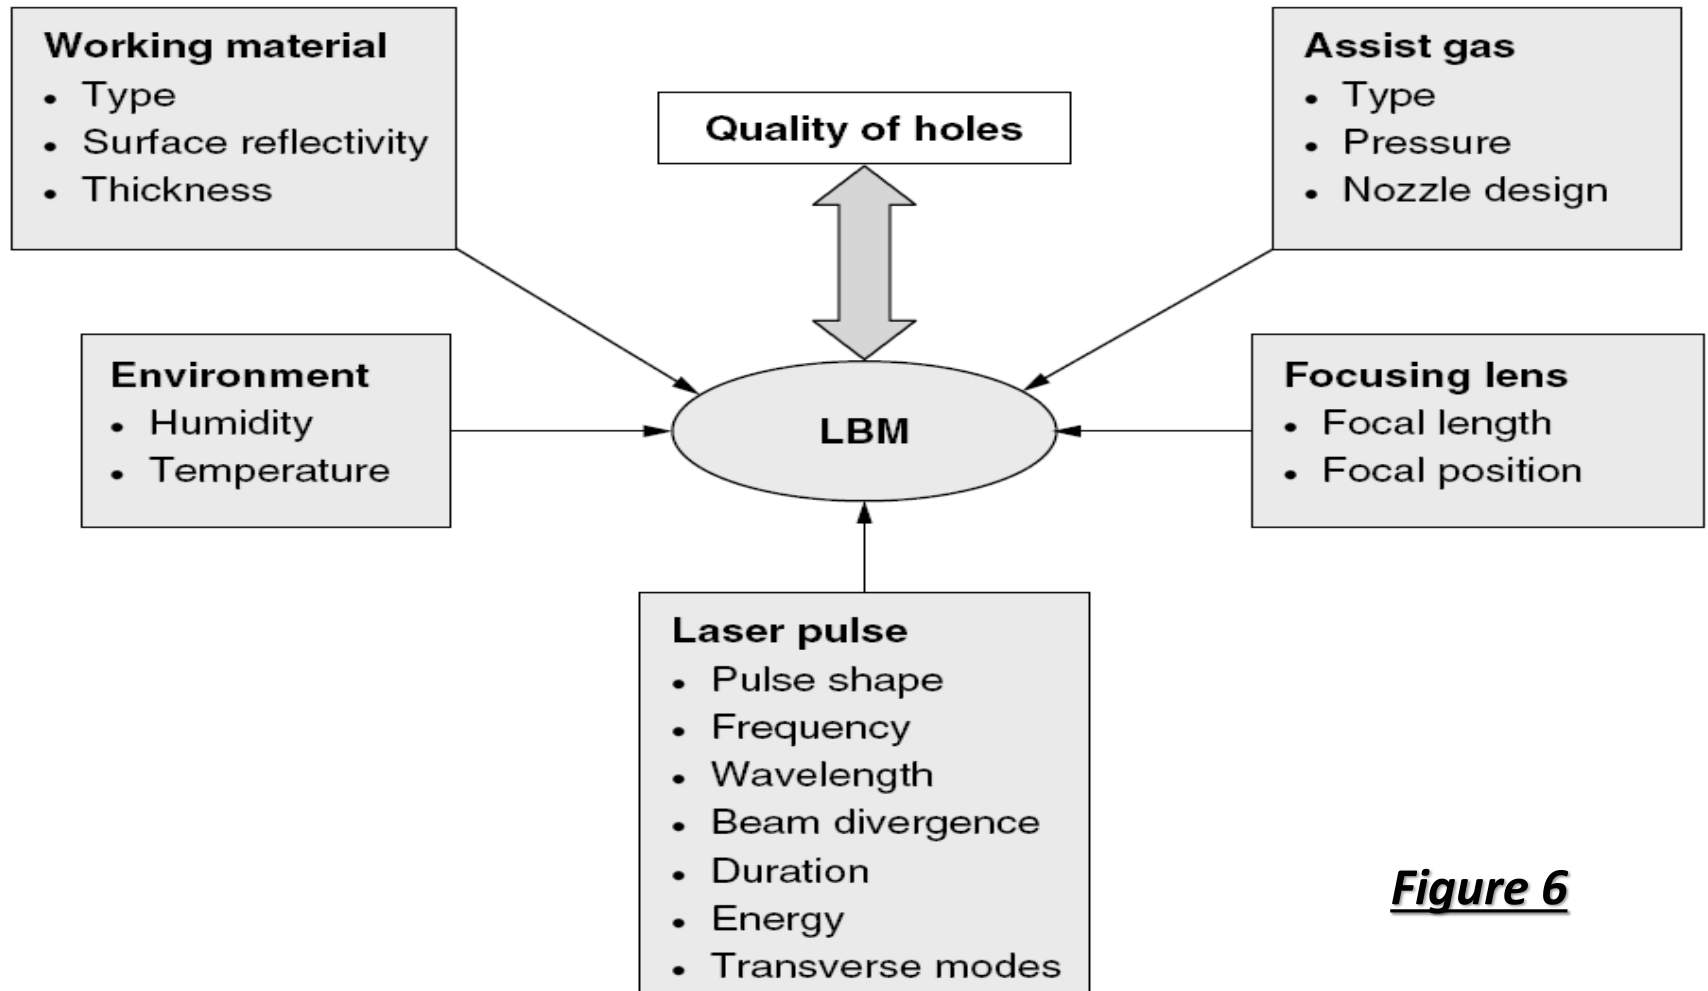

Figure 6
- Fig. 6 presents the factors which affect the LBM process. The factors can be related to LBM Drilling process and are discussed below: